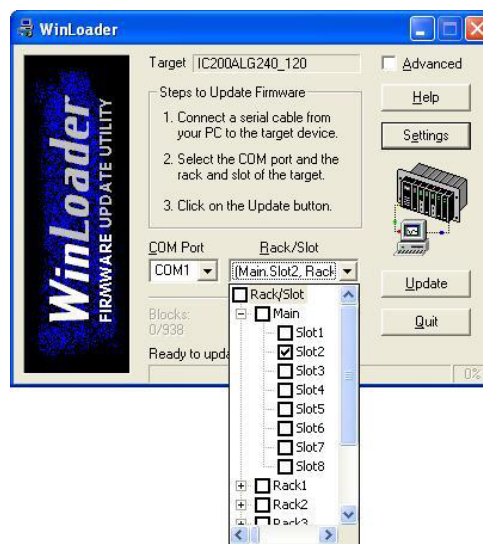

Figure 43: Rack/Slot Selection in WinLoader
7. Select the rack and slot location of the target module (Figure 43) by clicking the Rack/Slot drop-down box.
The illustration in Figure 43 shows that Slot 2 in the Main rack has been selected. Do not select more than one slot – VersaMax ENIU modules do not support multiple upgrade targets in one session. Note that the text displayed in the Target box will depend on the target module and its firmware version.